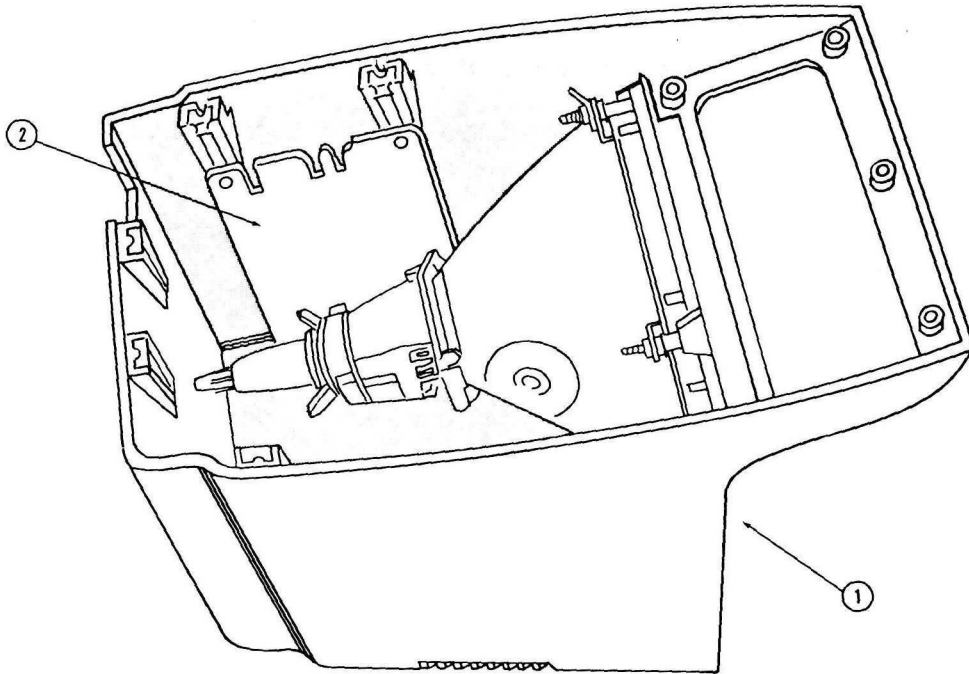

Figure 2. Case Top Assembly
6. Very carefully remove the top of the case (Figure 2 Item 1), lifting it straight up and setting it aside to the left. Disconnect the video harness from the board (Figure 2 Item 2) in the top of the case.